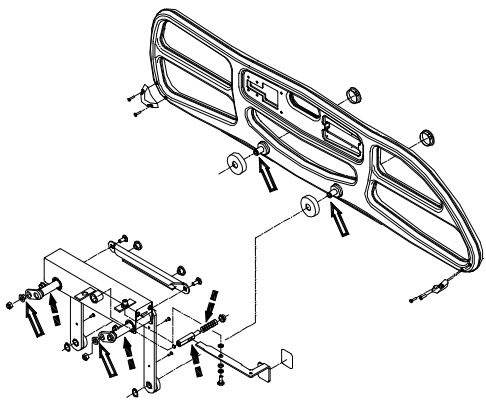

Figure 2.2B
- \_\_\_ The siderail plungers and plunger springs (see fig. 2.2B, page 12).
- \_\_\_ The siderail arm glide rods (see fig. 2.2B, page 12).
- \_\_\_ The siderail shafts and transfer plate sleeves (see fig. 2.2B, page 12).